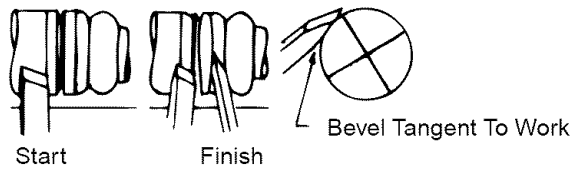

Figure 46
- Push the chisel straight into each cut and rotate horizontally to round off the adjacent edges. It must be moved slightly in the direction of rotation at the same time to keep the point from digging into the adjacent bead (See Figure 46, page 14).